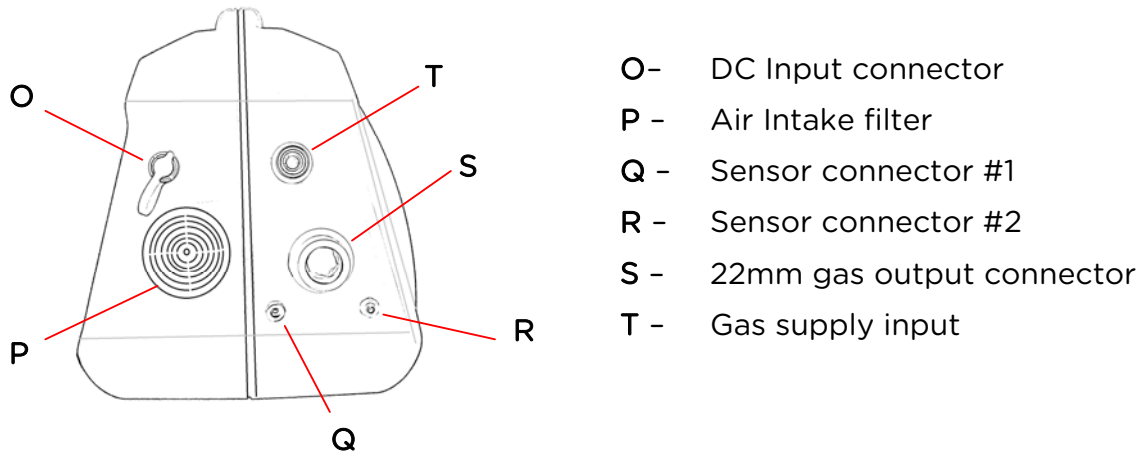
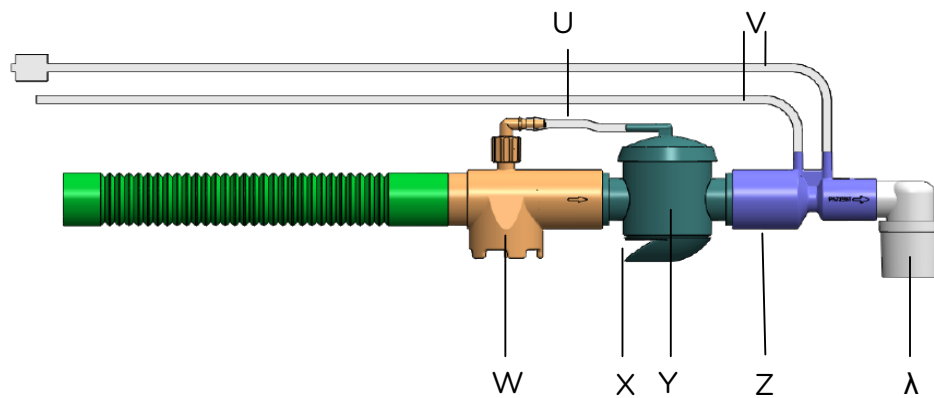

Figure 2
Figure 3
- 1 Connect the gas supply hose to the gas supply input (T) in Figure 2 of the e600.
1. Attach the O-Two patient circuit (Figure 3) to 22mm gas output connector (S) in Figure 2.
2. Connect the 2 sensor hoses (V) in Figure 3 of the patient circuit to their corresponding connectors (Q) & (R) in Figure 2.